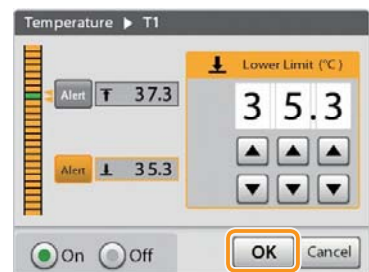

Figure 3-26
8. Tap [OK] to complete the setting. (Figure 3-26)